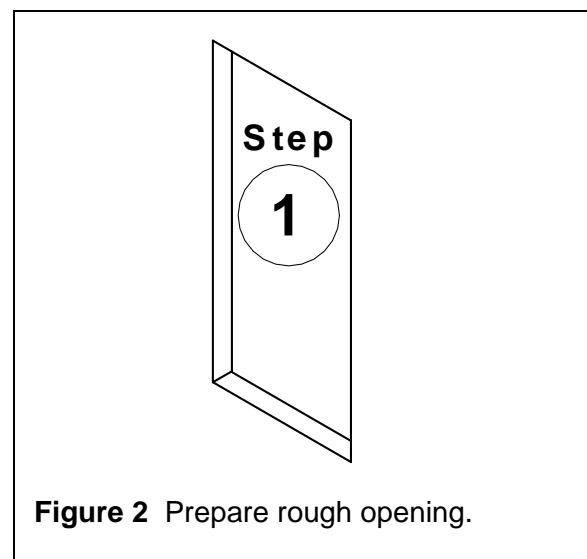

Figure 2 Prepare rough opening.
Step 1. Prepare opening and surrounding substrate. Keep substrate surface clean, dry, and smooth around perimeter (see Figure 2).